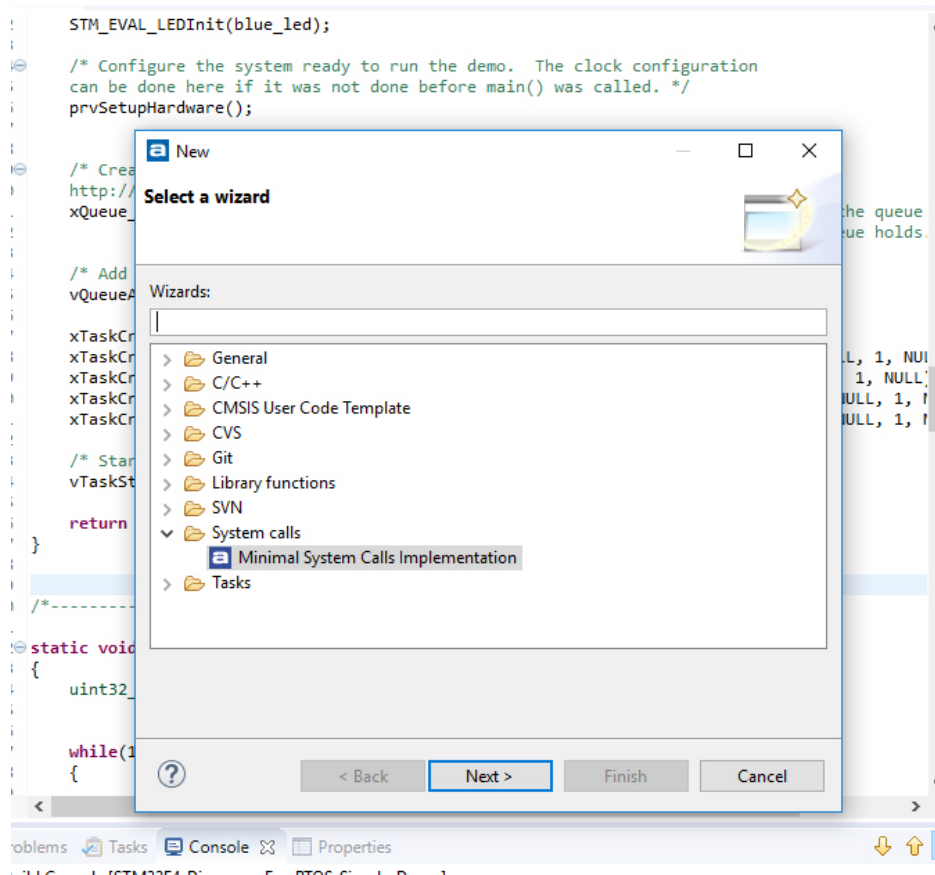

Figure 2. Adding a system call file to the project.
*Calls Implementation as in Figure2.*